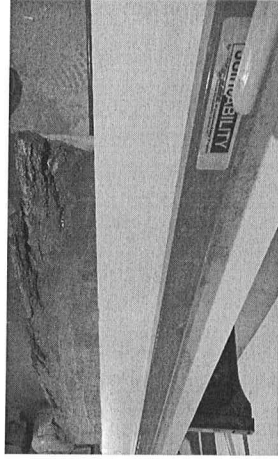

Figure 4.
- Place the plank in the JointABILITY setting the edge where you want the edge of the finished board to be. Figure 4 illustrates this.